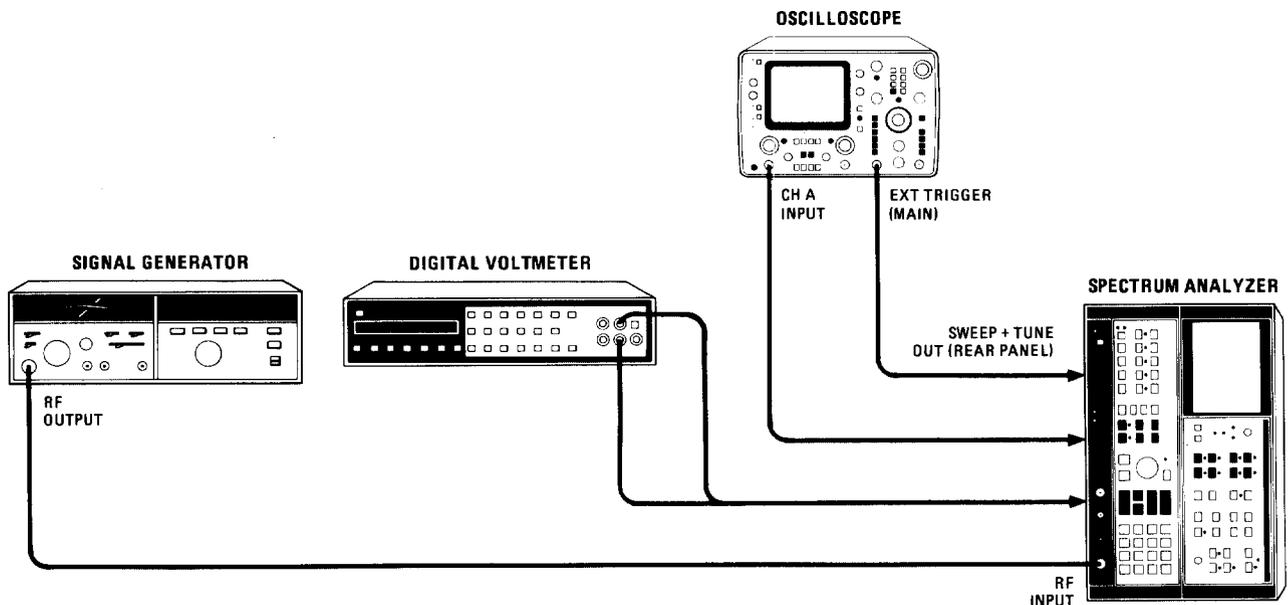

FIGURE 40. SWEEP AND DAC ADJUSTMENTS SETUP
Equipment listed is for three setups: Figures 40, 45, and 46.
1. Position instrument on right side as shown in Figure 40, with bottom cover removed. Remove cover over A12 through A16 PC Boards. Jumper A12TP2 to A12TP3 (Lock Indicator Disable).